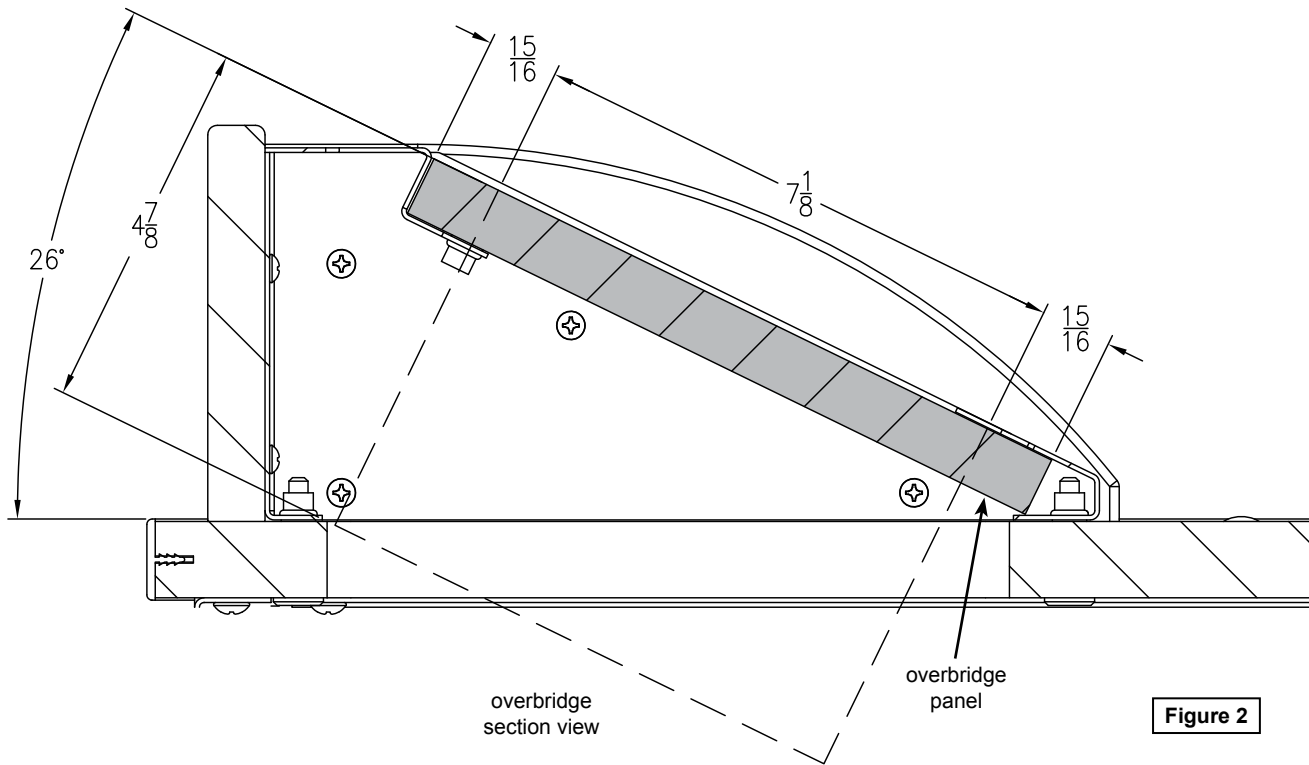

Figure 2
- Determine the depth of your controller and verify it will not collide with the worksurface or any other objects under the overbridge when the panel is attached. **Figure 2.**